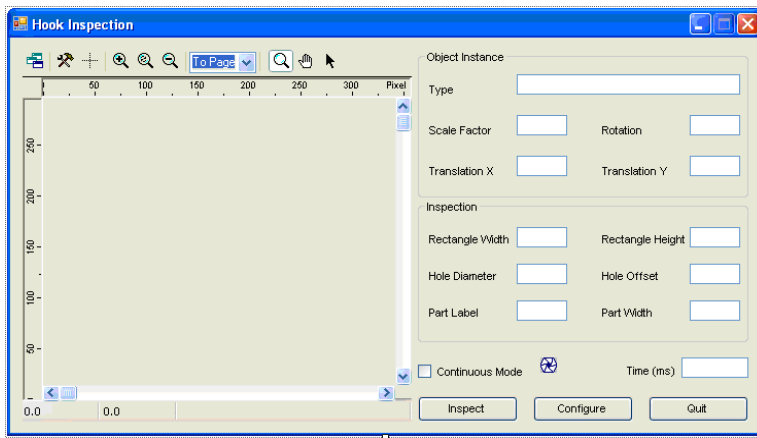

Figure 109 C# Form for Tutorial 6
1. On your application form, add one text box. Name it **PartWidthText** and add appropriate label. Set up your form as illustrated in Figure 109.